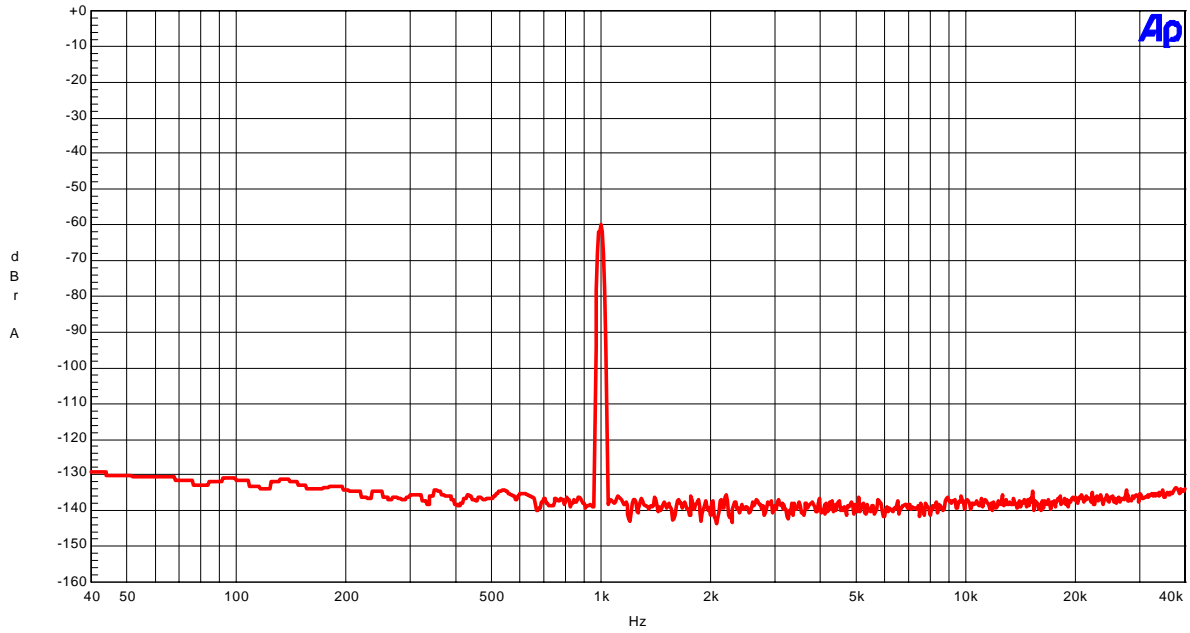

Figure 17. FFT (1kHz, -60dBFS input)
- Figure 17. FFT (1kHz, -60dBFS input)